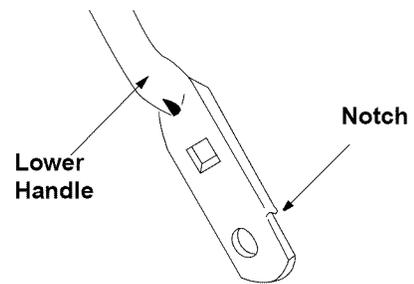

Figure 17
- Turn lower handle around so the notch is facing forward as shown in Figure 17. Reassemble, placing the bottom holes in the handle over the weld pins in the handle mounting bracket.